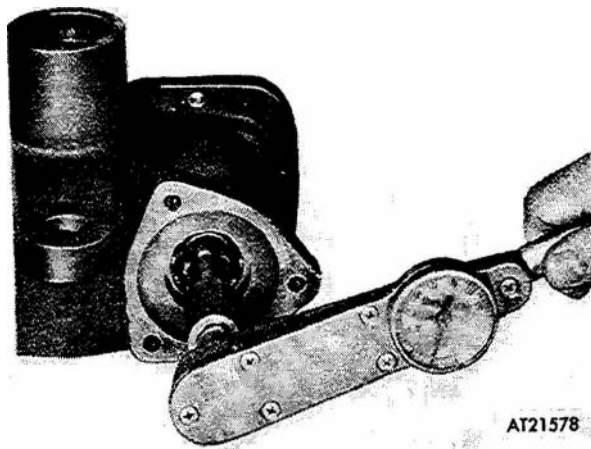

Figure 3-205. Checking worm gear preload.
(4) Check worm gear preload using a suitable inch-pound torque wrench (fig 3-205). Preload should be  $\frac{3}{8}$ -1- $\frac{1}{4}$  lbs-in., in a nine inch radius, if not, add or subtract the number of shims (14, fig 3-195) to obtain proper preload.